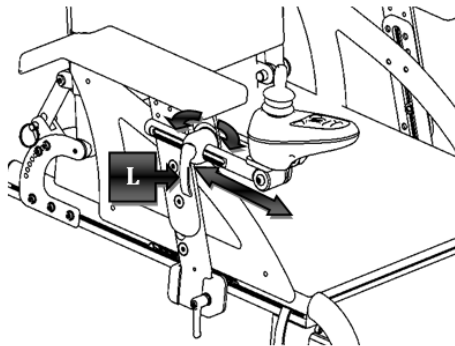

Figure 25
Loosen the lever (L), as shown in Figure 25, so it is possible to move the joystick in accordance with the directions indicated to reach the desired position. Retighten the lever.